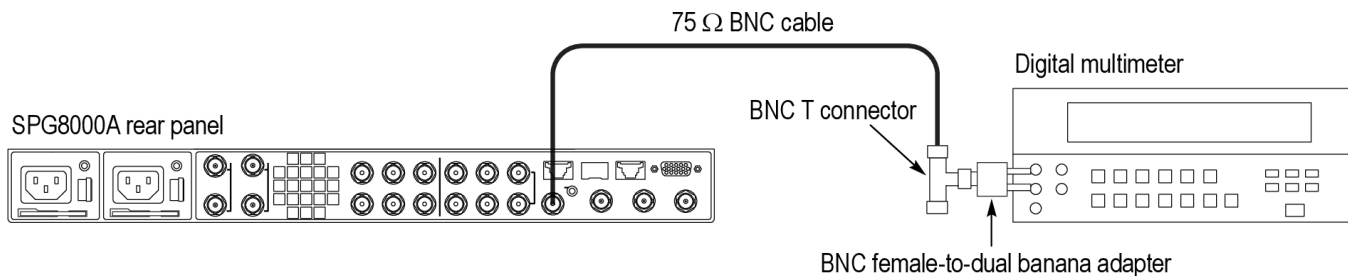

Figure 21: Setup for DC antenna output power voltage test
1. Use the equipment connection from the previous test. (See Figure 21: Setup for DC antenna output power voltage test on page 84.)